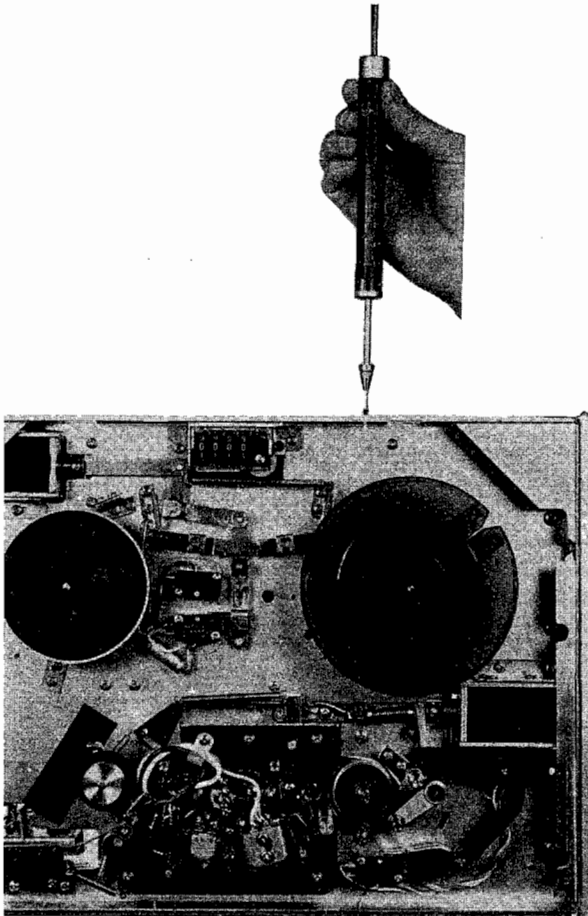

Fig. 9
- 1) Use a 60 mm diameter tape wound on a 5" reel and measure the brake tension as shown in Fig. 9. Ideal tape tension is 350 grams.